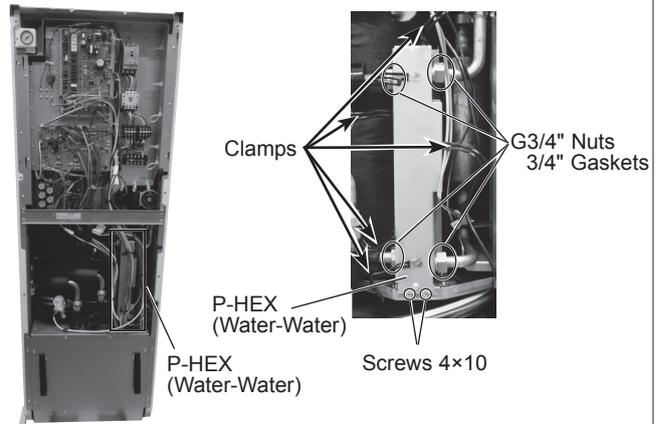

Figure 7
- (1) Remove the front panel. (Refer to Procedure 1.)
- (2) Remove the frame. (Refer to Procedure 4-2.)
- (3) Release the lead wires from the clamp on the control box. (Photo 5-1)
- (4) Remove the module box front. (Refer to Procedure 6-3.)
- (5) ▪ Drain and collect water. (Refer to Procedure 6-4.)
- Recover water from the drain cock of tank. (Figure 7)
- (6) Release the lead wires from the clamps on the P-HEX (Water-Water). (Photo 7)
- (7) Remove the G3/4" nuts and the 4 of 3/4" gaskets from the P-HEX (Water-Water). (Photo 7) When removing the P-HEX (Water-Water) and water comes out from inside, recover water with a container.
- (8) Remove the screws fixing P-HEX (Water-Water) and the tank base (2 screws 4x10).
- (9) Remove the P-HEX (Water-Water).